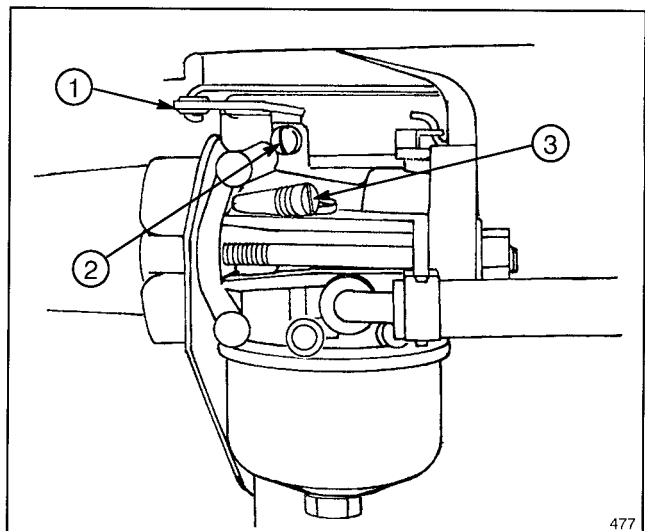

Figure 21
1. Gently turn idle mixture valve clockwise until it **just** closes (Fig. 21). Turning valve in too far may cause damage.
4. Rotate throttle (Fig. 21) counterclockwise and hold against idle speed adjusting screw (Fig. 21) while turning idle speed adjusting screw to obtain 1750 RPM.